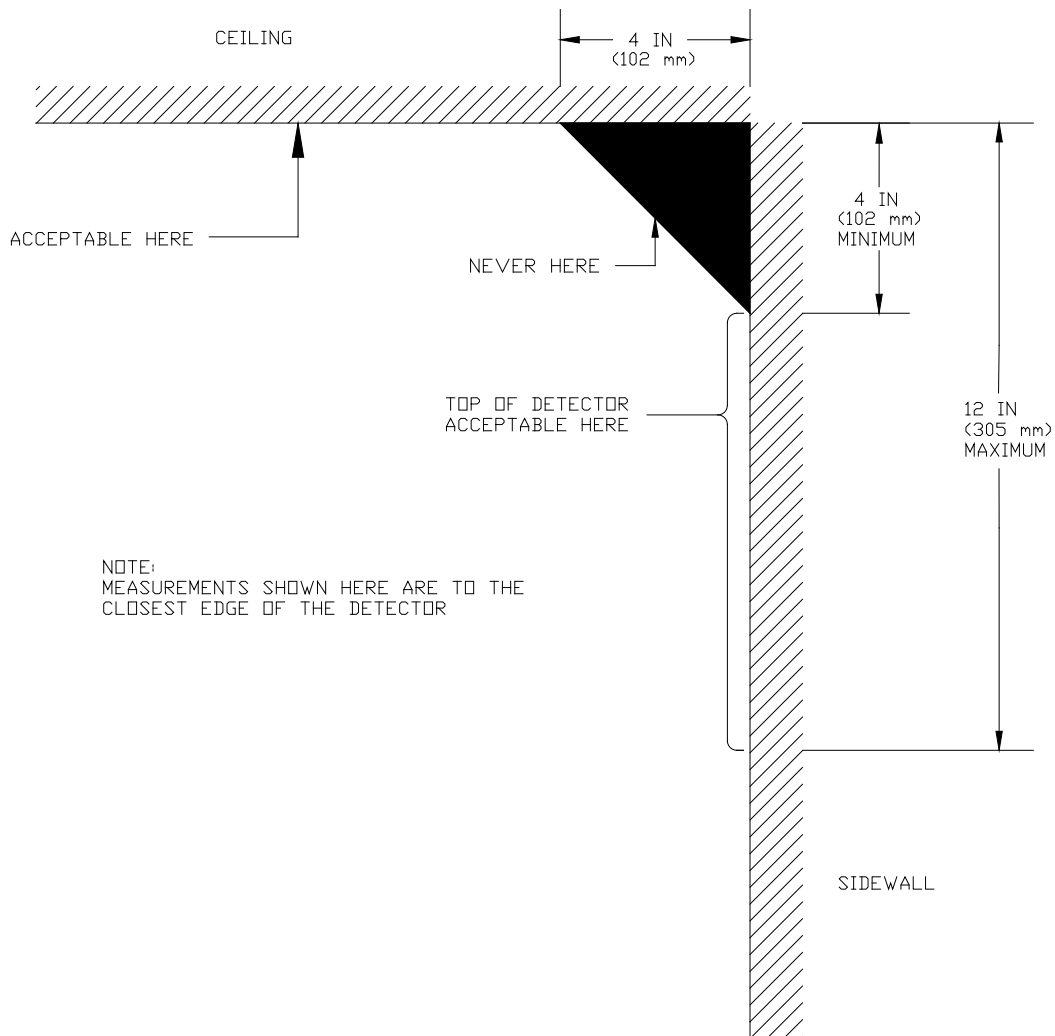

Figure 4
4.7.3.1 All detectors, including fusible links, shall be placed as shown in Figure 4 (Figure 4.7.3.1(a) in NFPA 80), but in no event shall detectors be placed in the dead air space area shown in Figure 4.
3. Locate the second fusible link within 12 inches of the ceiling on the door side of the wall. Do not install a link or detector within four inches of the intersection of the wall and the ceiling. (See Figure 4)
Answer: Use detectors installed on both sides of the wall, located per Figure 4 and connected to a compatible release device or fire door motor operator, and install a fusible link or detector near the top of the opening.